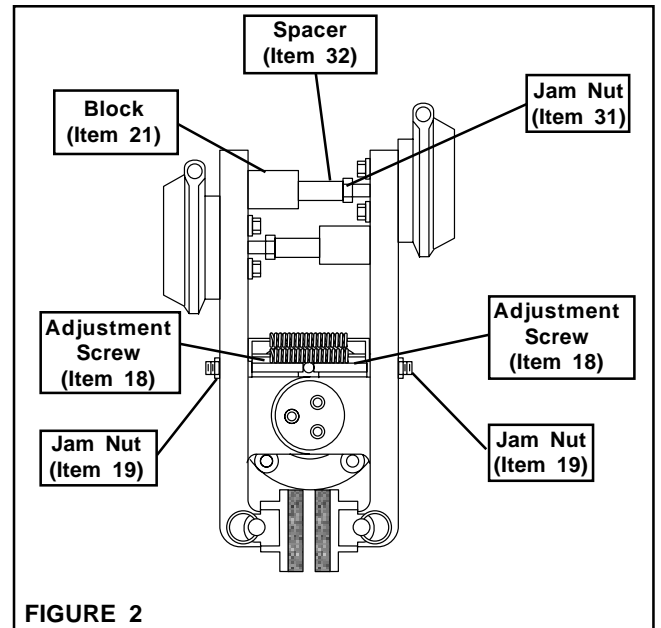

FIGURE 2
1. Loosen the Jam Nut (Item 19) (See Figure 2).
2. Turn the Adjustment Screw (Item 18) counterclockwise until a 1/32 In. [0.79 mm] customer supplied spacer can be inserted between each Friction Facing (Item 6) and the disc. Each side may be adjusted individually (See Figure 2).
3. With customer supplied spacers inserted, turn each Adjustment Screw (Item 18) clockwise until a resistance is felt (See Figure 2).
4. Remove the customer supplied spacers and tighten the Jam Nut (Item 19) to 15-20 Ft. Lbs. [20.3-27 N•m] torque (See Figure 2).
5. Loosen the Jam Nut (Item 31) (See Figure 2).
6. Adjust the Spacer (Item 32) until its spherical end touches the Block (Item 21) (See Figure 2).
7. Tighten the Jam Nut (Item 31) to 15-20 Ft. Lbs [20.3-27 N•m] torque (See Figure 2).